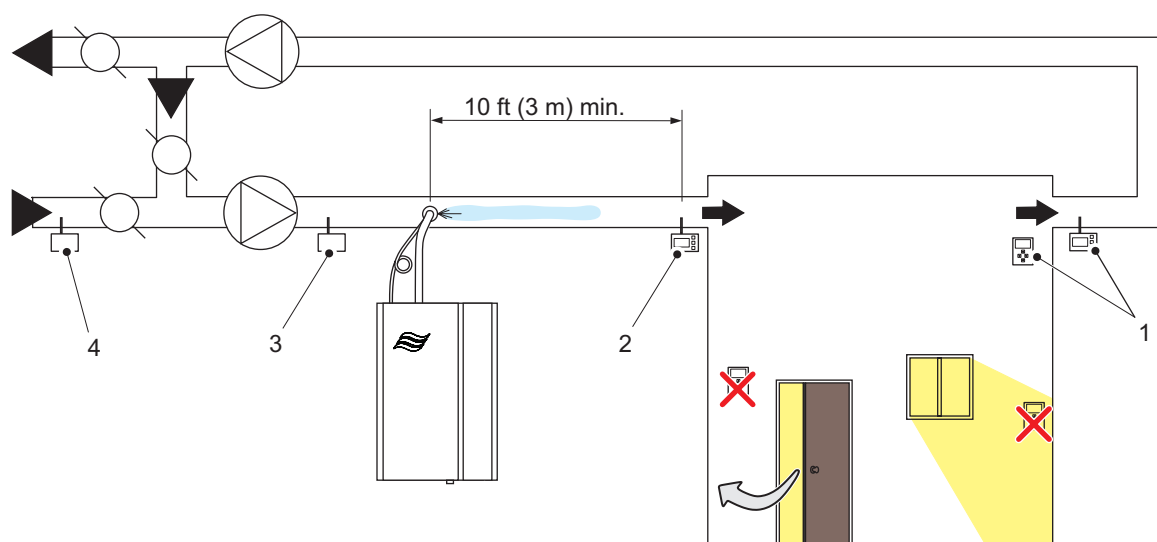

Figure 26: Duct Humidity Control Location
When using the supply air duct for steam distribution, Condair highly recommends the use of an air proving switch and a high limit humidistat in addition to a humidity controller. Environments with exterior walls should also consider using an outdoor temperature sensor in the system. Refer to Figure 26.
- ☐ The distance between the steam distributor and the Condair duct humidistat or transducer should be minimum 10 ft (3 m), or greater than the calculated absorption distance. Refer to Figure 26 on page 51.